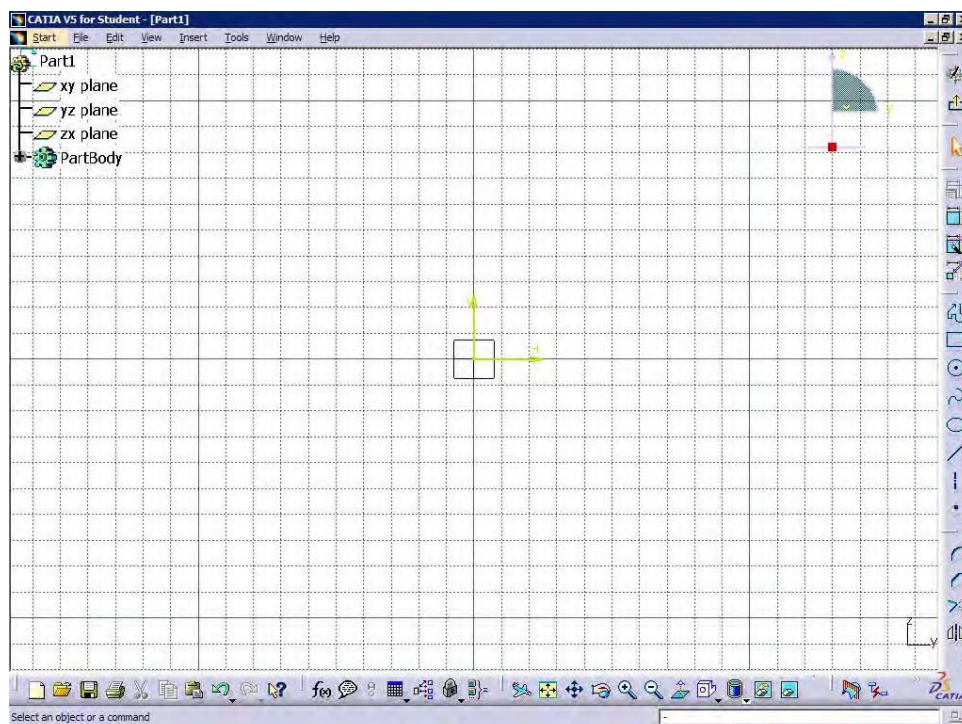

*Figure 1-33 Selecting **Part** from the **New** dialog box*
- On choosing **Close** from **File** menu, the start screen of CATIA V5 is displayed. Choose **Start > Mechanical Design > Part Design** to make sure that you are in **Part Design** workbench. To open a new file in **Part Design** workbench, choose **File > New** from menu bar. The **New** dialog box is displayed, as shown in Figure 1-33.